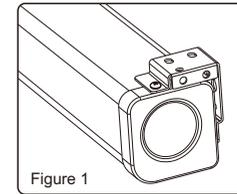

Figure 1
2. There are two ways for wall brackets to fix on the housing. As you can see on the Figure 1, which is our normal fixed way (namely factory set). While the other fixed way is to interchange the left and right wall brackets, and then fix onto the housing (namely functional installation way, as Figure 2).
Using a tape measure, measure the distance between the two keyholes on the casing (Figure 1). According to the measurement, use the drill to drill identical holes of the appropriate size on the wall (use a smaller drill bit than the actual screws) and ensure that it is level (Figure 2 - 3). Screw in the appropriate screws, either 5 x 40mm by itself for wood walls or with anchors for drywalls, leaving enough space at the end to hang the casing (Figure 4). To ensure that the screen is level, use a level to check (Figure 5).
Using a tape measure find out the distance between the two keyholes on the casing (Figure 1). According to the measurement, use the drill to drill identical holes of the appropriate size on the ceiling and ensure that it is level (Figure 2 - 3). Screw in the hook screws (not provided), and lift the screen into the hook screws to hang (Figure 4). To ensure that the screen is level, use a level to check (Figure 5).